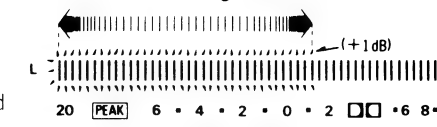
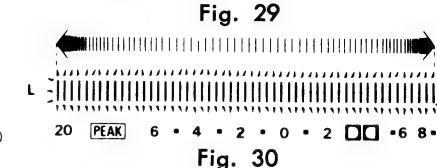

Fig. 29
Fig. 30
- Adjust VR402 so that the  $+1$  dB segment lights up in the  $0 \pm 0.2$  dB range of the standard input level (See fig. 29).
- Repeat twice between steps (5) and (6) above.
- Adjust ATT and check that all segments light up when an input signal level is increased to  $10$  dB higher than the standard input level (See fig. 30).